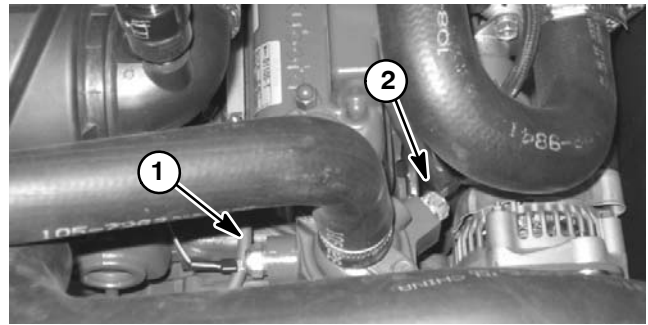

Figure 13
- C. High temperature warning switch and high temperature shutdown switch (Fig. 13).